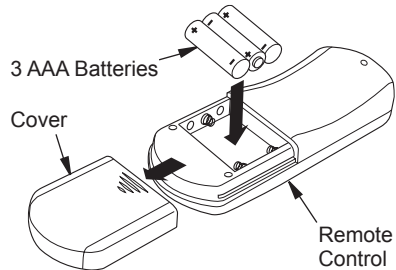

Figure 34 - Installing Batteries in Remote Control
1. Remove remote cover (see Figure 34).
2. Insert 3 AAA batteries into remote control (see Figure 34). Positive and negative are marked inside remote control casing. **Note:** Remote will not function if batteries are not installed correctly.